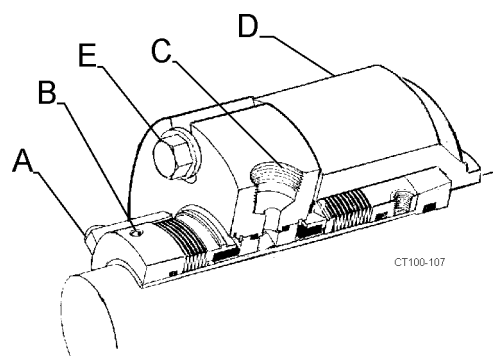

Figure 39 - Typical Cartridge Seal
NOTE: Be sure the flushing ports in the cartridge seal are positioned with the inlet toward the bottom and the outlet toward the top. (Figure 39, item C).
14. Hold the backplate in place and tighten the cartridge seal into the cartridge adapter by tightening the cap screws (Figure 39, item E).
Table 1: Call Outs For Figure 39
16. Tighten the two set screws to the shaft. (Figure 39, item B).
17. Remove the lugs/spacers. (Figure 39, item A).